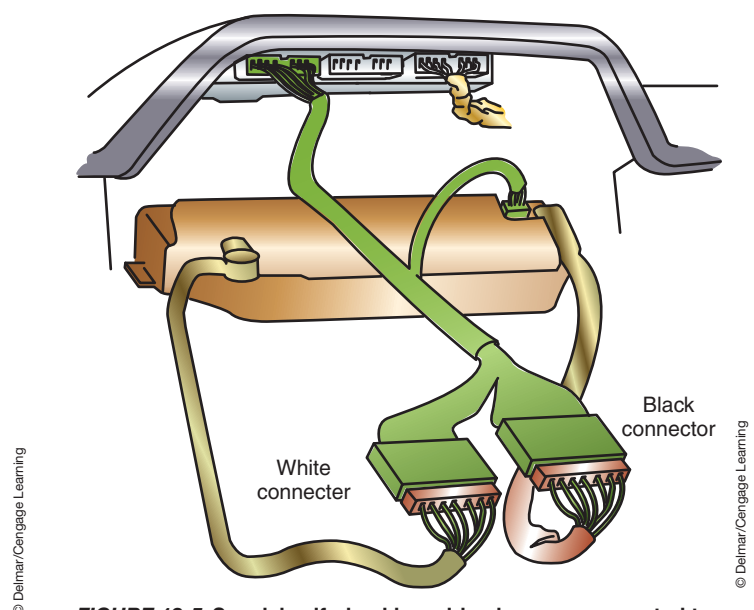

FIGURE 13-5 Special self-checking wiring harness connected to EIC terminal.
5. Connect the special self-checking wiring harness to the EIC terminals (Figure 13-5).